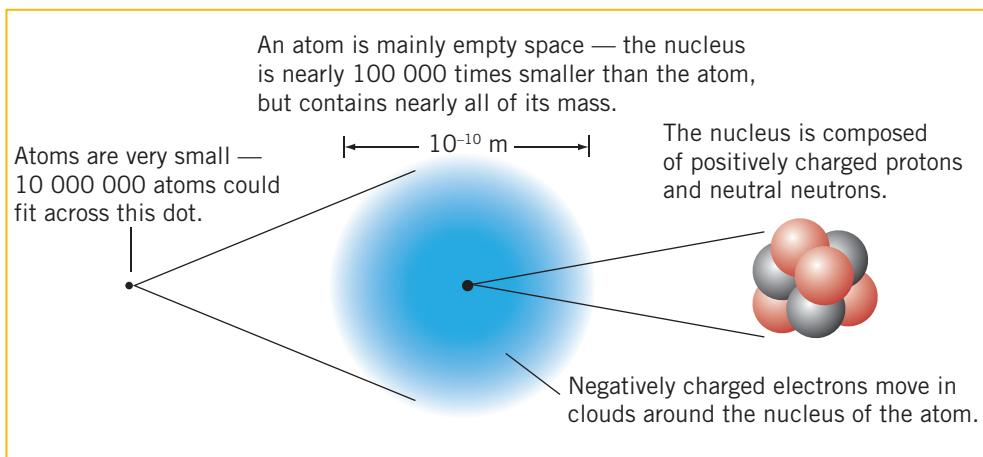

Figure 1.1 The structure of an atom
The atom is therefore pictured as being composed of the protons and neutrons in the nucleus with electrons moving rapidly in regions of space around the nucleus, as shown in Figure 1.1.
- b If you were going to make a scale model of a typical atom, and you made the nucleus in your model the same size as the nucleus shown on the right of Figure 1.1, what would the diameter of your model atom be?